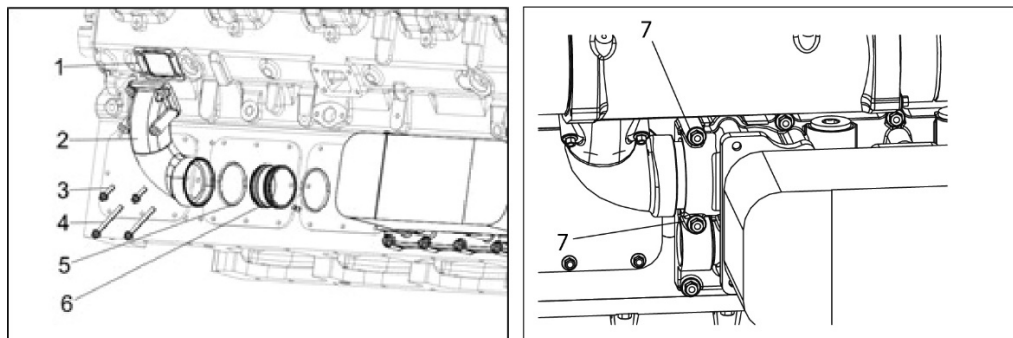

Figure 176
8. Install the oil cooler water outlet pipe (Fig 176, item 2), fit the O-ring (Fig 176, item 5) to the joint pipe (Fig 176, item 6), connect the water outlet pipe with the oil cooler, tighten the fixed bolts (Fig 176, item 3) with washers (Fig 176, item 1). Torque bolts to 35 N·m. Tighten remaining fixed bolts (Fig 176, item 7) left loose in Figure 176.